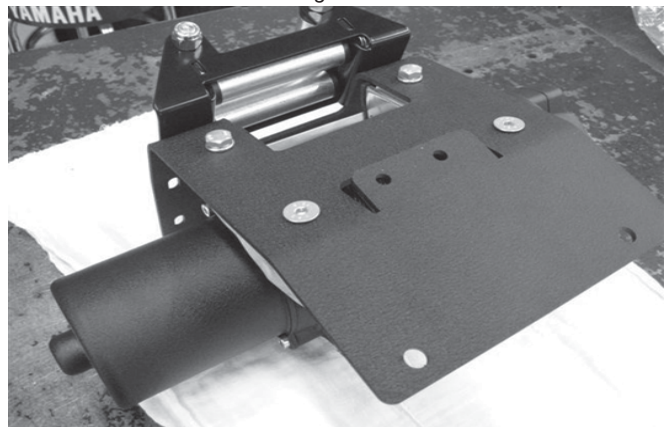

Figure 8
9. Place winch mounting bracket into position on the winch and attach using 2 M8-1.25 x 20mm hex head cap screws and lock washers in the forward two mounting holes. On the motor side of the winch in the rear mounting hole use the M8-1.25 x 20mm countersunk cap screw. On the clutch endhousing side of the winch use the M8-1.25 x 16mm countersunk cap screw. (figure 8)